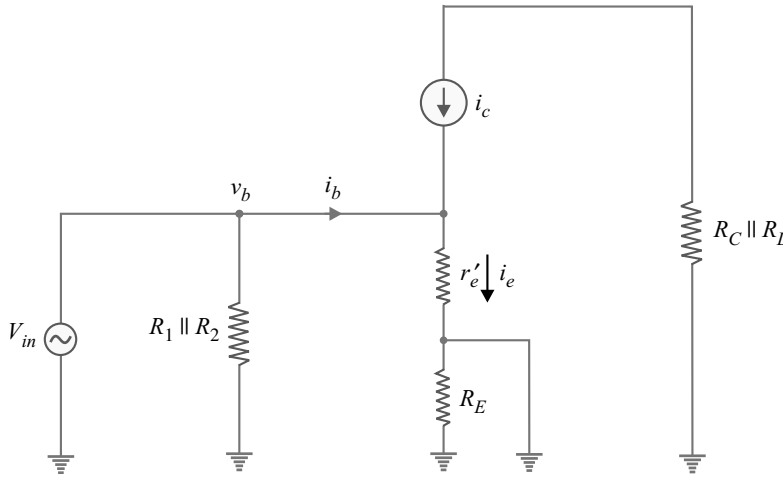

Fig. 8.42
**Derivation of formula for  $Z_{in(base)}$ .** We now prove that when emitter bypass capacitor  $C_E$  is connected across  $R_E$ , then,  $Z_{in(base)} = \beta r'_e$ . \*Fig. 8.42 shows the a.c. equivalent circuit of CE amplifier with transistor replaced by its  $r'_e$  model.